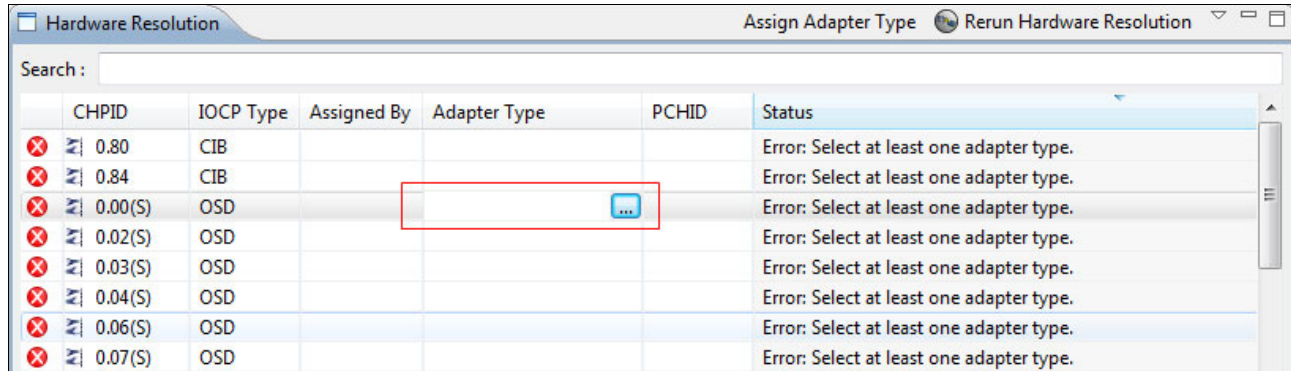

Figure 6-82 CMT - Selecting at least one adapter type
1. Click the **Adapter Type** column in the target row. The tool displays an arrow in the Channel Type column of the target row (Figure 6-82).